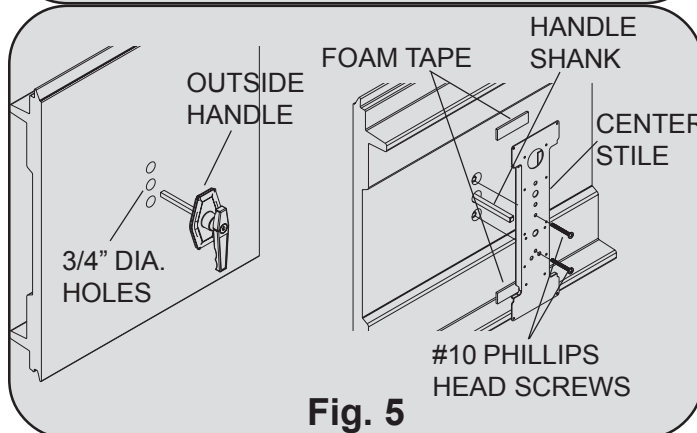

Fig. 5
9000 Series & Wood doors (see Fig. 5), align the outside handle assembly with the handle pointing towards the floor and insert the assembly through the previously drilled 3/4" diameter holes in the section. With the outside lock placed in the section, place the center lock stile over the shank of the outside lock handle, secure the center lock stile with foam tape (8300/8500 Series & Wood doors will use the lock backup plate with no foam tape). Secure the outside lock handle to the section by placing the (2) #10 phillips head machine screws through the lock stile into the lock section. **NOTE: Before proceeding to the next step its recommended that the outside handle be locked.**